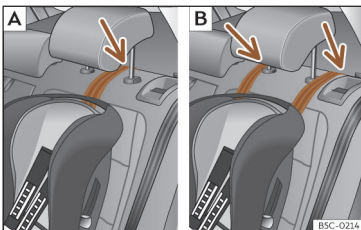

Fig. 37 Rear seats: adjustment and assembly according to the Top Tether belt.
- Position the belt under the headrest (according to the instructions of the seat itself, lift or remove the headrest if necessary) >>> **Fig. 37**.